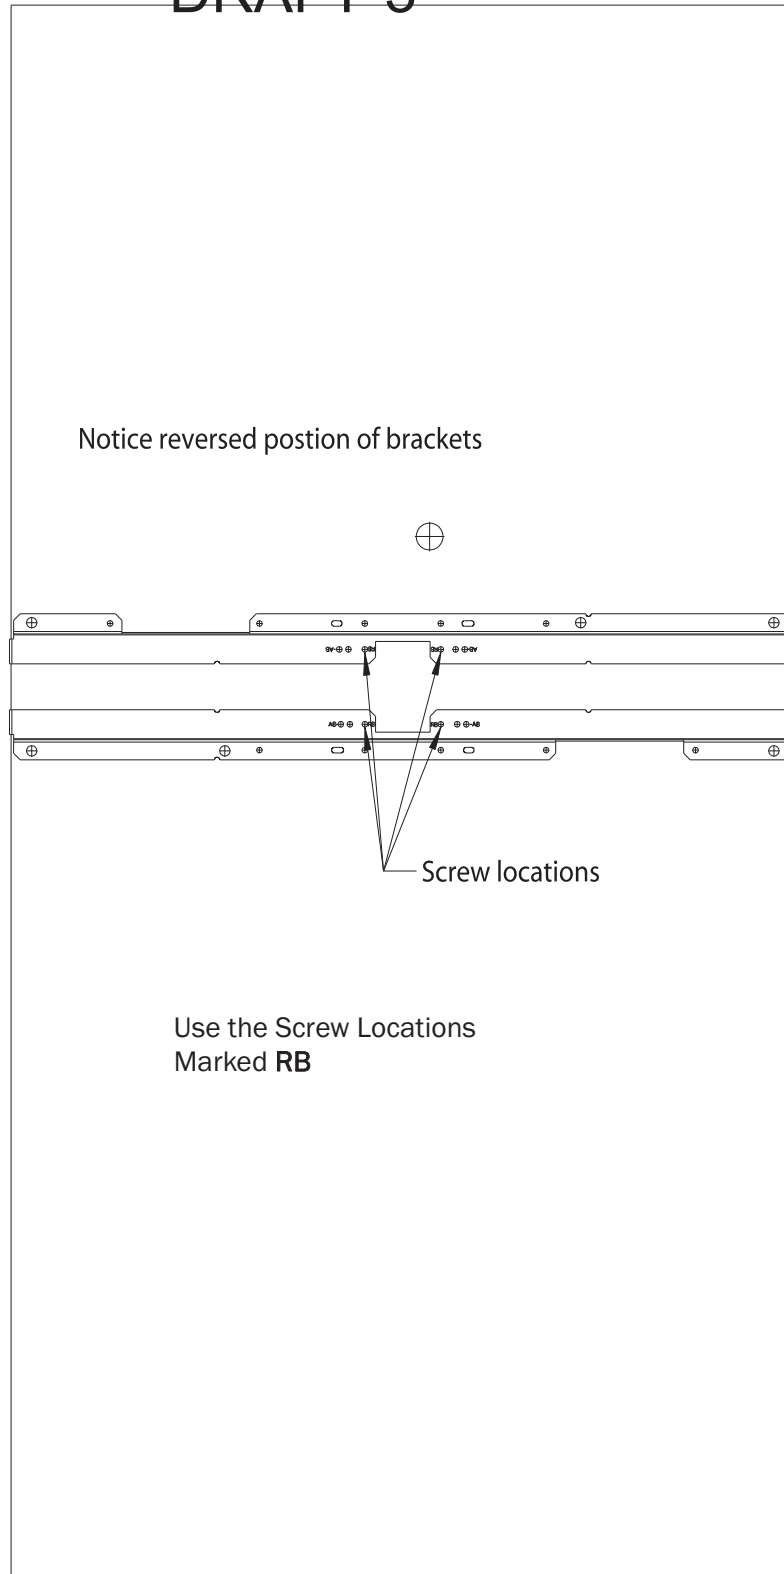

Figure 2-22: RA Below Ceiling Tile Mounting Rail Screw Locations
4. Mark the location of the "RB" screw holes in the mounting rails on the ceiling tile where the holes will be drilled through the tile as shown in Figure 2-22. Drill four .25-inch (6 mm) diameter holes in the ceiling tile.
8. Insert the four (4) M3-.5 x 30 lobe screws into the RA mounting rail holes, through the ceiling tile, through the provided plastic spacers, and into the mating holes in the back of the wall plate.